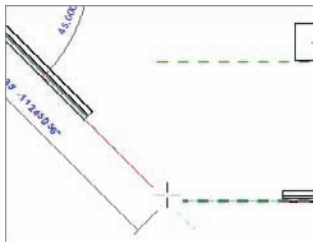

FIGURE 2.15 Stretching the wall using the blue grip
2. On each end, you see a solid blue grip. Pick the right solid blue grip, and drag the wall down to meet the reference plane, as shown in Figure 2.15.